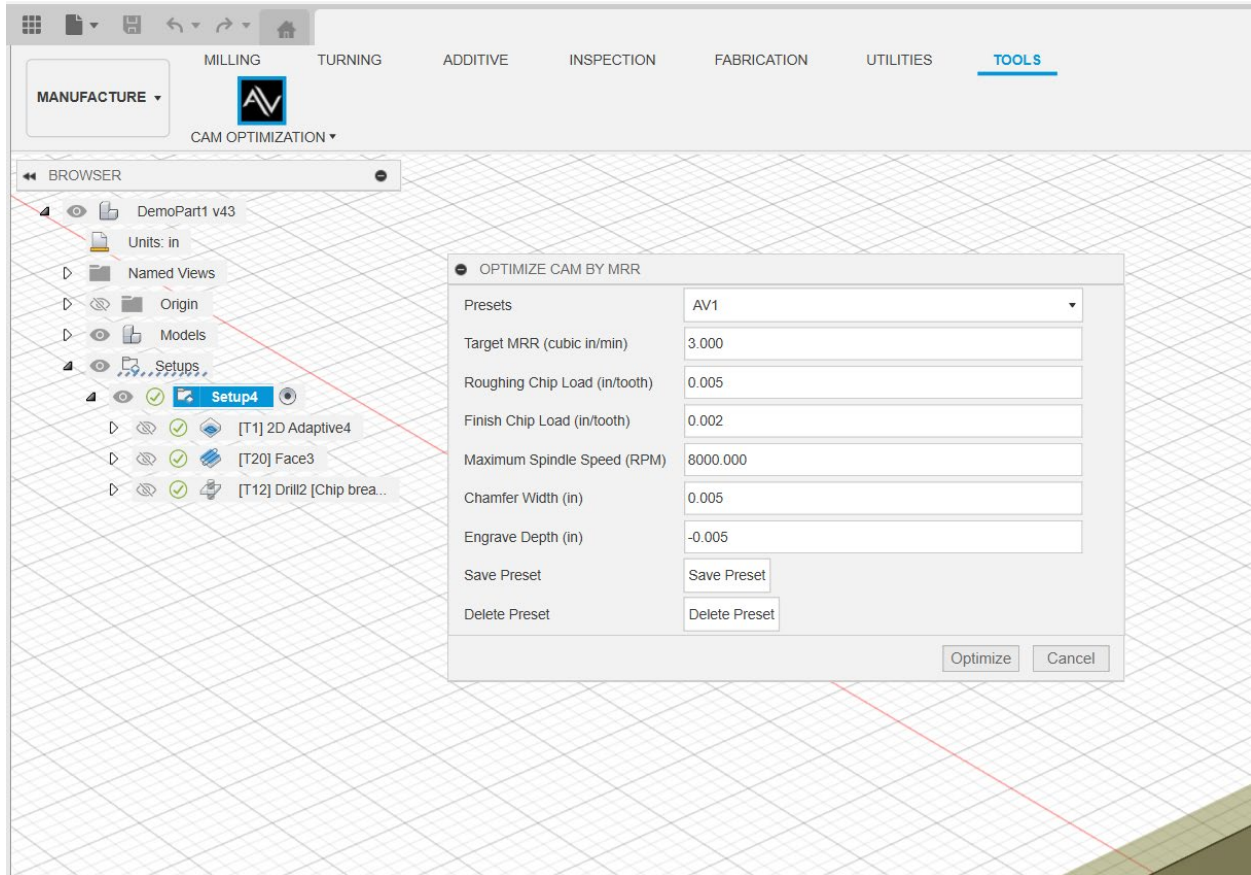

Figure 2: CamOptimization dialog
- A dialog appears with input fields (see *Figure 2*):